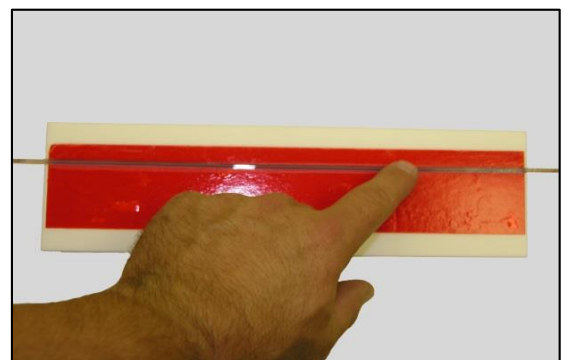

Figure 2
5.2 Place each section of ribbon to the overlap side of the adhesive tape. This will ensure that the tape will not lift off of the board when removing the matrix coating. Run finger down the ribbon several times to ensure adhesion to the tape (see Fig. 2).